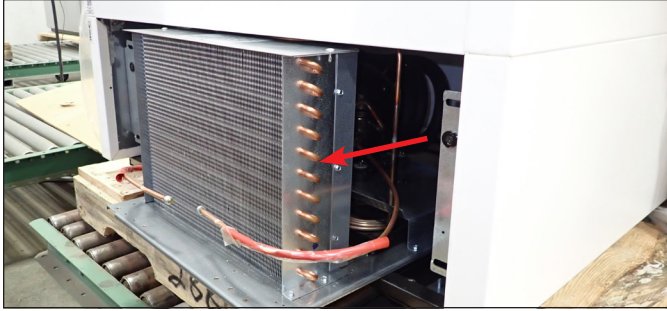

Fig. 5. Carefully slide the condensing unit out.
6. Carefully slide the condensing unit out (tubing connections are flexible). Gently blow compressed air or CO₂ through the coil until it is clean. See fig. 5.